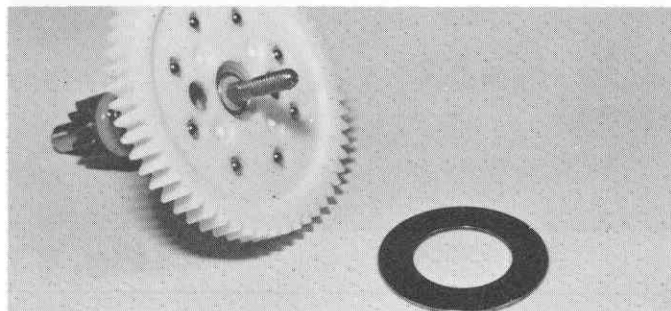

Fig. 75
□ **Fig. 75** Slip the spur gear on the shaft. Take the other drive ring.